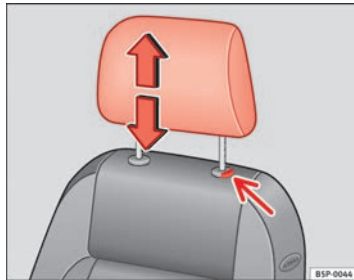

Fig. 92 Adjusting and removing the head restraints
- Press the button ⇒ Fig. 92 (arrow).